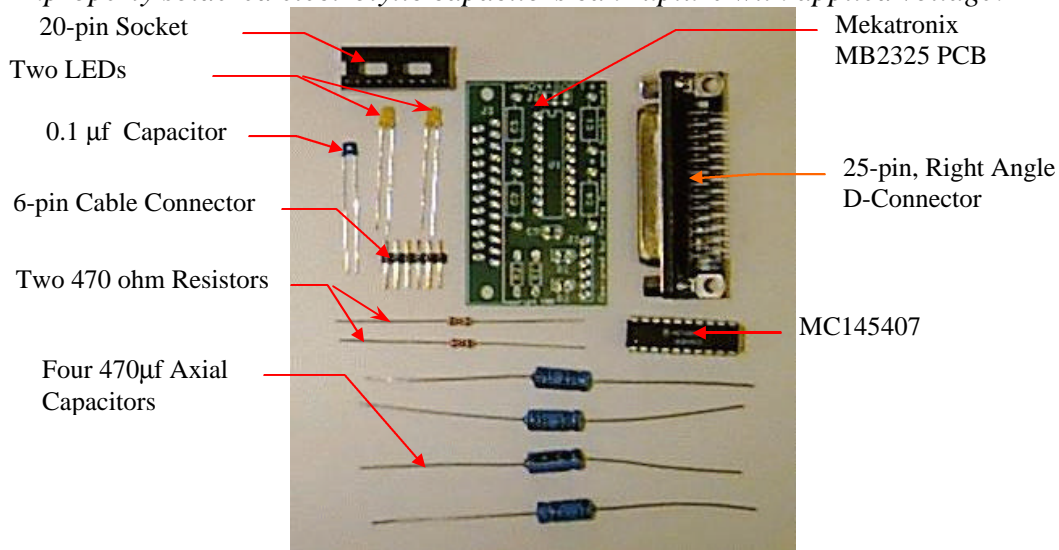
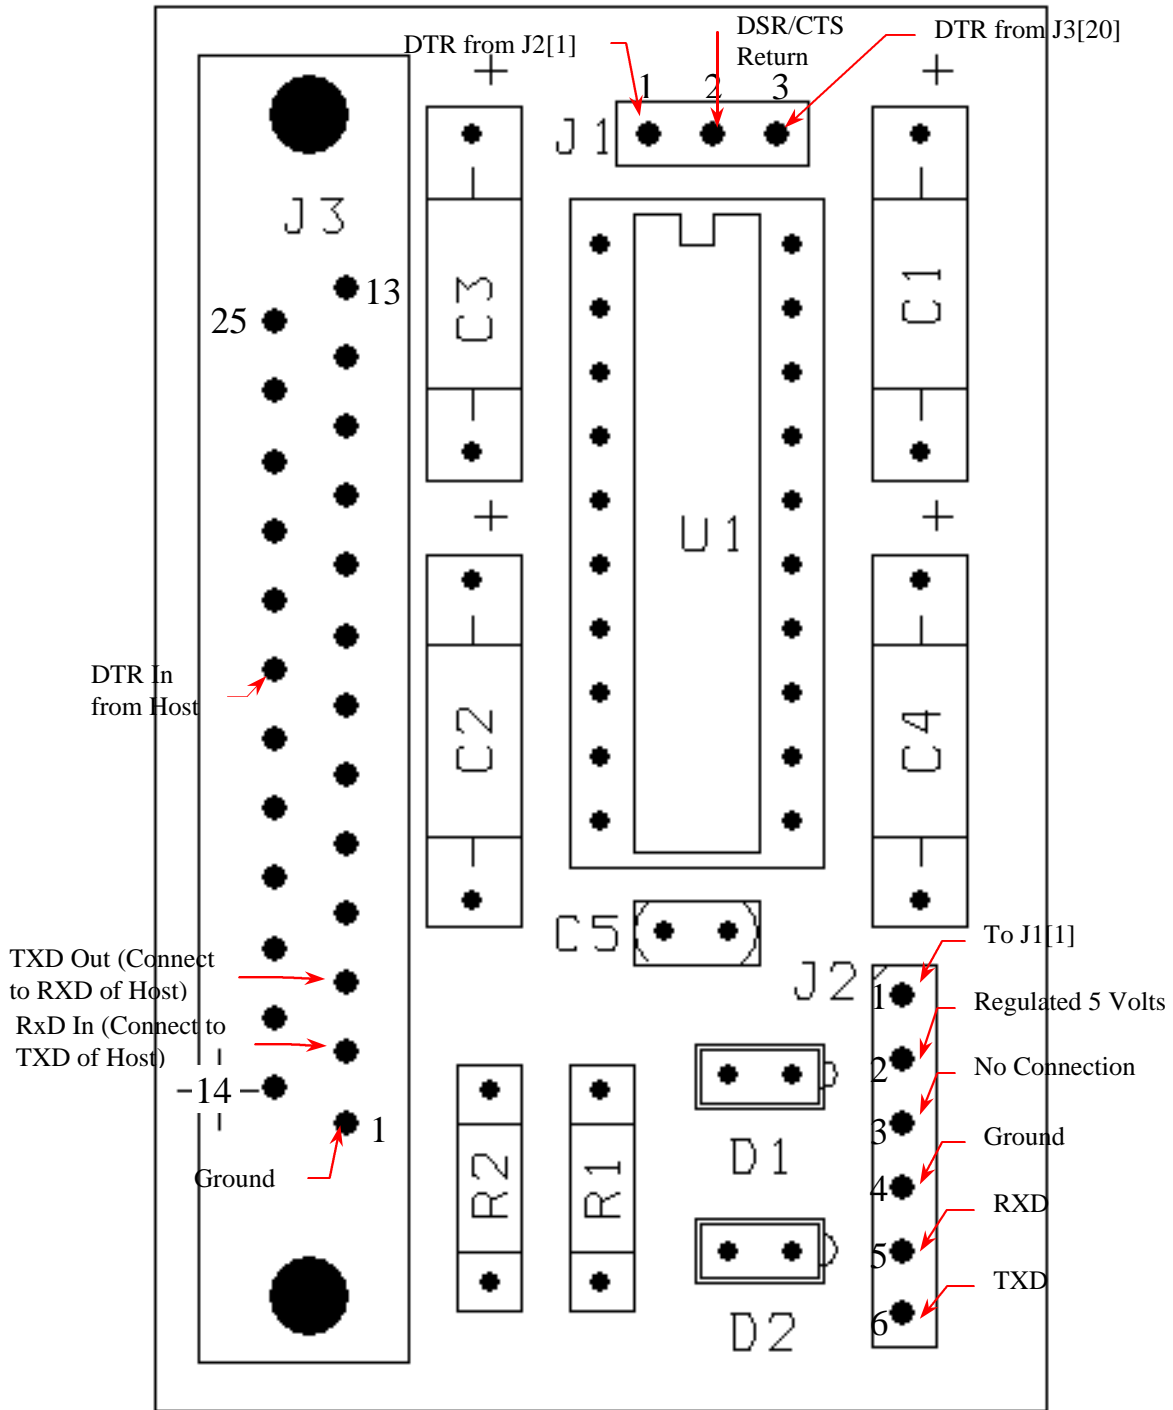

Figure 1 Layout of the MB2325 PCB and components.
Figure 3 Layout and header pin numbers on the MB2325 board.
Figure 1 is a photograph of the MB2325 PCB and components. Table 1 on the next page lists the MB2325 parts. The part labels in Table 1 correspond to the part labels in Figure 3 (two pages hence). Figure 3 and Table 1, together, illustrate how to place the components for soldering. Usage of the MB2325 is illustrated in Figure 4. The circuit diagram of the MB2325 appears in Figure 5.
3. Place the circuit components listed in Table 1 according to the layout shown in Figure 3 and solder them onto the board.
1. With a multimeter measure the resistance between ground and power, J2[2] and J2[4] (Figure 3). You should get an open circuit (infinite resistance). If not, check for solder bridges. After removal of solder bridges test for shorts again. Proceed to the next step only when all sources of shorts have been removed.
2. Place a jumper on J1 shorting J1[2] to J1[3] (DSR/CTS generated by DTR from Host computer) (Figure 3).